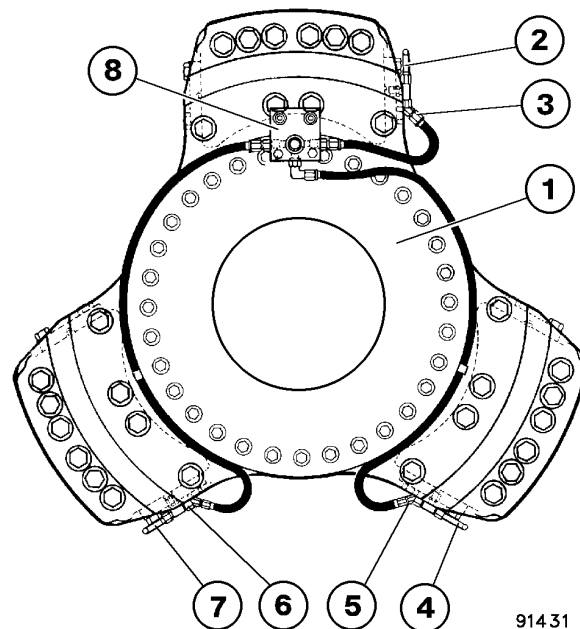

FIGURE 5-1. BRAKE LINES
3. Open the brake bleed valves (2, Figure 5-2) at each caliper and bleed down the caliper by disconnecting the two lower hoses at "T" connection (5 & 6, Figure 5-1). Drain the fluid into a container. Do not reuse fluid.
4. Disconnect the top brake hose at "T" connection (3, Figure 5-1).